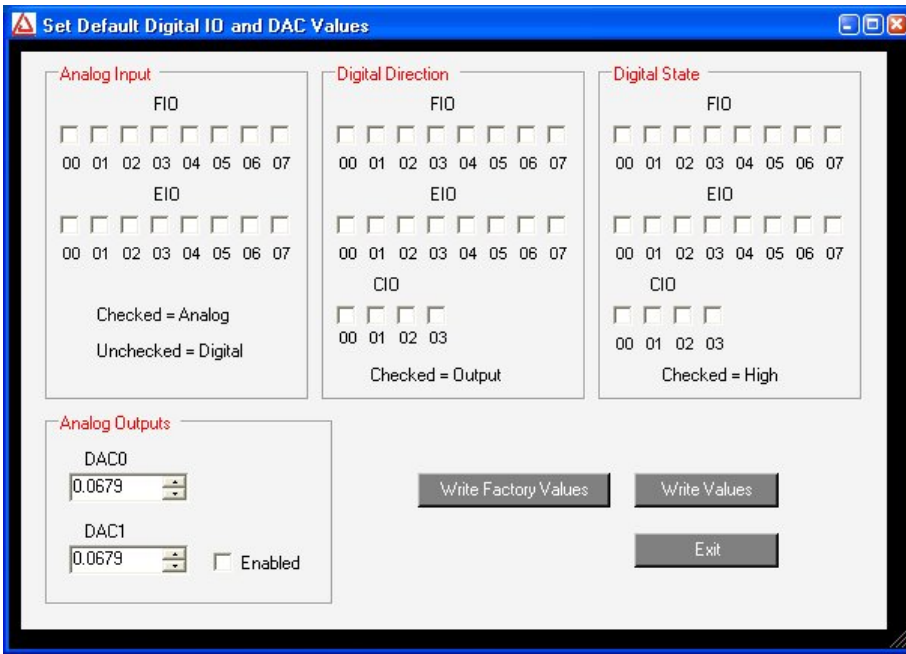

Figure 1-2. LJControlPanel U3 Configure Defaults Window
| Figure 1-2. LJControlPanel U3 Configure Defaults Window | 9 |
- Config. IO Defaults: Opens the window shown in Figure 1-2.
Figure 1-2 shows the configuration window for U3 defaults. These are the values that will be loaded by the U3 at power-up or reset. The factory defaults, as shown above, are all lines configured as digital input.